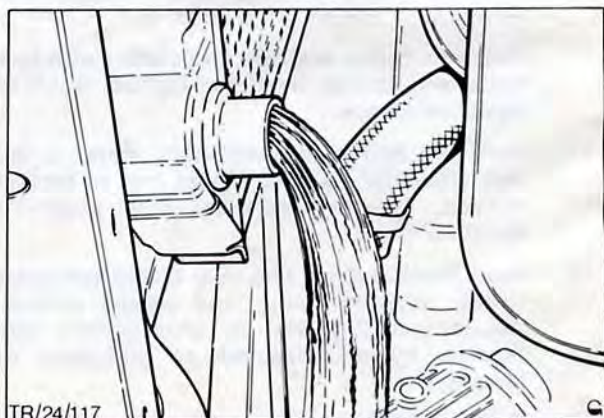

Fig. 33. Remove bottom hose and allow radiator to drain
4. Position a clean drain tray below vehicle, open drain plug on engine block side, disconnect radiator bottom hose and allow system to drain, Fig. 33.